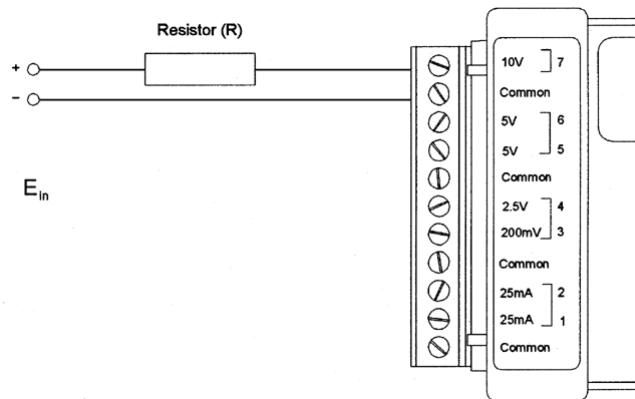

Figure 7-3: Extended Voltage Range on 10V Channel
The 10 volt channel can be modified to span higher ranges (greater than 10 volts DC) by adding a single resistor to the "10V" terminal shown in Figure 7-3. The value of the resistor (R) can be calculated by following the formula below, based on the desired voltage input range (Ein):
The 5 volt and 2.5 volt channels can be modified to span higher ranges (greater than 5 and 2.5 volts DC respectively) by adding a single resistor, in the same way as shown for a 10V channel in Figure 7-3 to the "5V" and "2.5V" terminals. The value of the resistor (R) can be calculated by the following equations, based on the desired voltage input range (Ein). A final range can be determined to write a custom equation in TrendReader software.